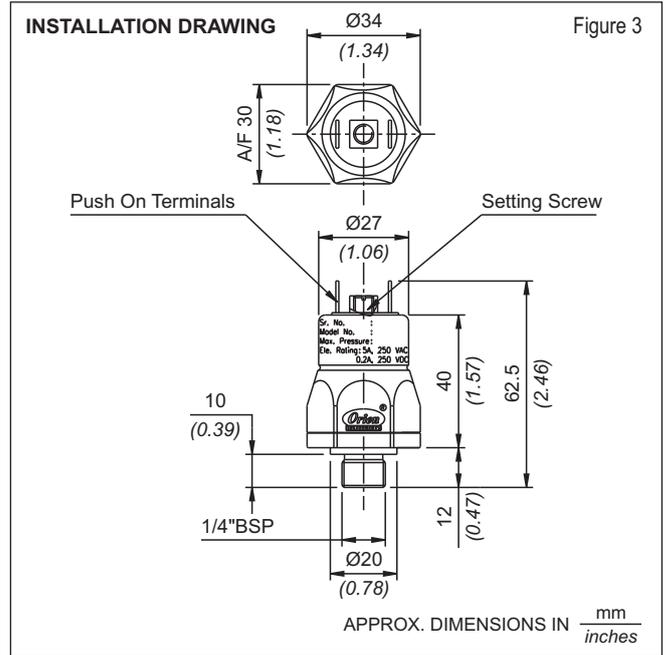

Figure 3
- 1) The switching point can be easily adjusted by turning the setting screw located in between the contacts. Figure 3.